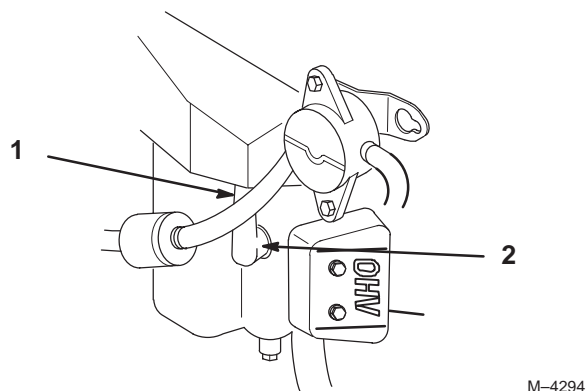

Figure 41
2. Pull the wires off the spark plugs (Fig. 41). Now clean around the spark plugs to prevent dirt from falling into the engine and potentially causing damage.
3. Push the wires onto the spark plugs (Fig. 41).